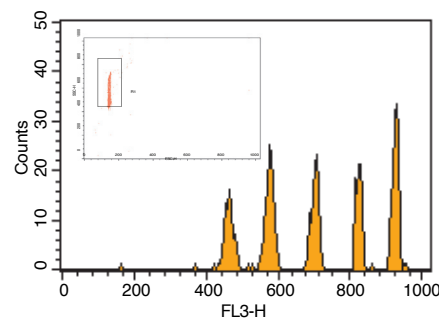

Figure 6
- The intensity of the Starfire Red dye contained in the bead is used to differentiate the bead from others in the 5-bead QuantumPlex kit. (Figure 6) When using only the QuantumPlex SP beads, the use of "back-gating" on the red (FL3) signal may be performed to rule out debris and validate your correct identification of the beads.